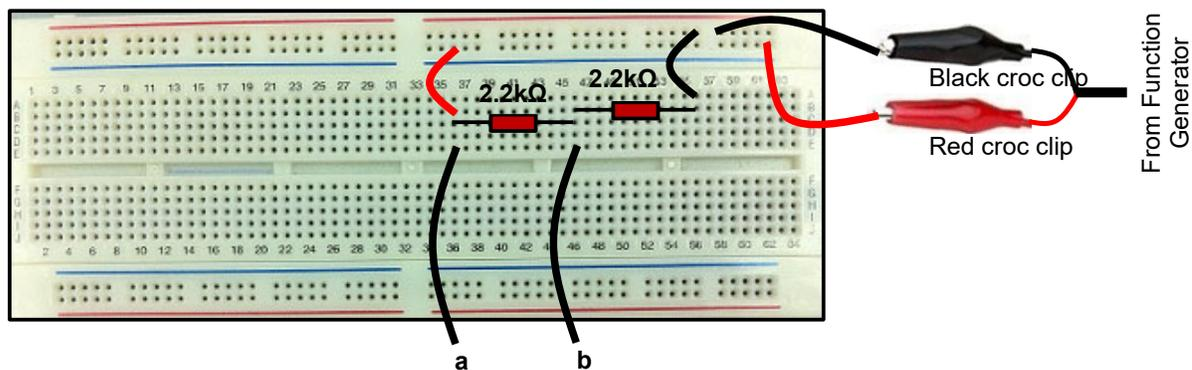

Fig. 5: Circuit connection on a breadboard
1. Switch OFF the function generator (FG) and digital storage oscilloscope (DSO).
2. Place two 2.2 k Ω resistors and wires/jumpers on a breadboard as shown in Fig. 5. (Refer to Fig. B in the Appendix about the breadboard available in the lab)